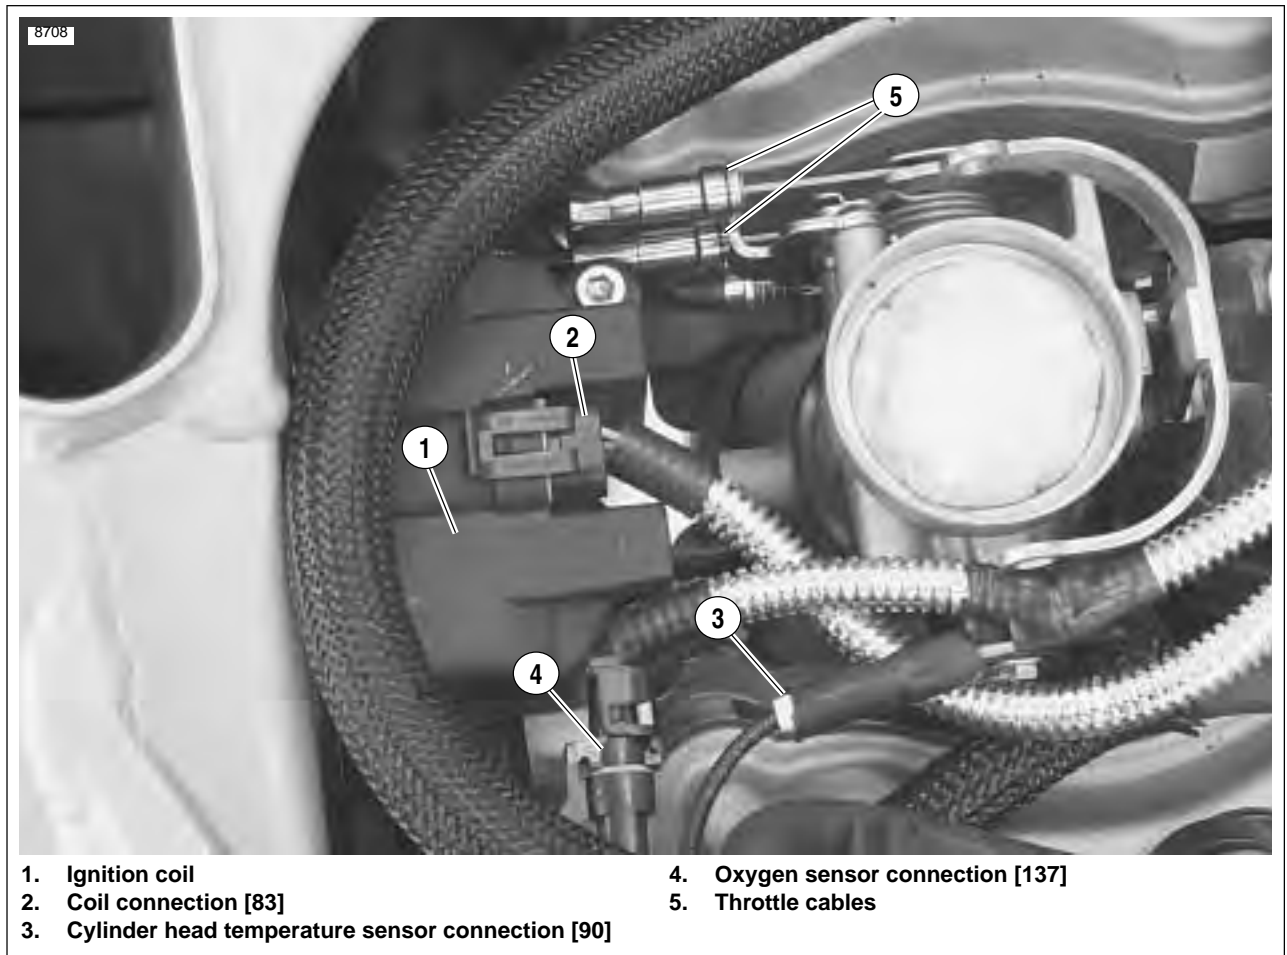

Figure 3-60. Electrical Connections and Throttle Cables
41. See Figure 3-60. Connect throttle cables to induction module/throttle body.
43. See Figure 3-60. Install the ignition coil and spark plug wires and connect [83]. Tighten ignition coil fasteners to 120-144 **in-lbs** (13.6-16.3 Nm).